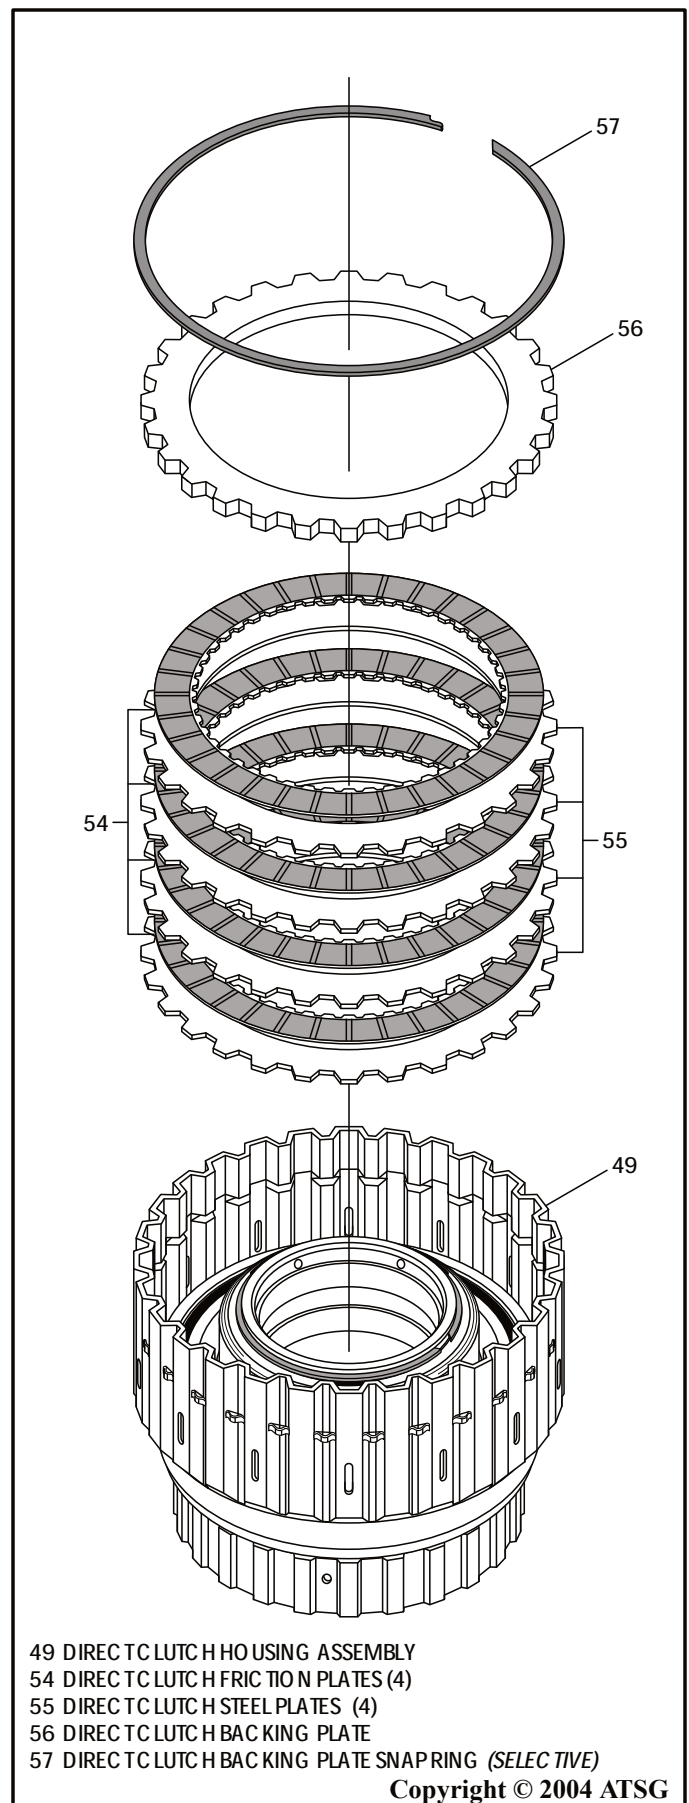

Figure 135
10. Install 4 steel plates and 4 friction plates in the order shown in Figure 135.
11. Install the direct clutch backing plate and the selective snap ring, as shown in Figure 135.